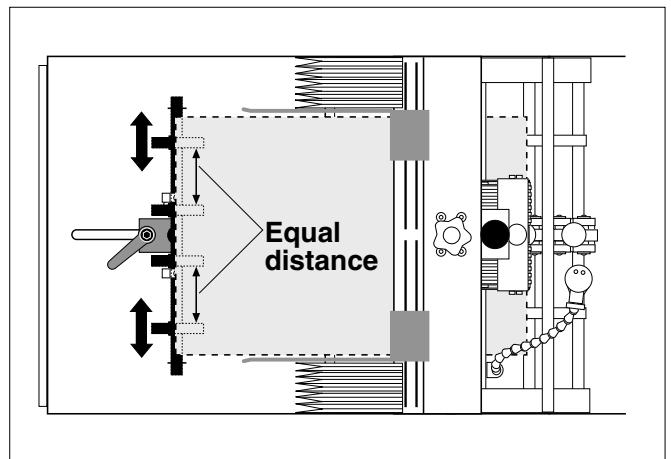

Figure 3-14. Evenly Adjusting Individual Rollers
6. Check that individual rollers are evenly spaced to provide enough support to lift the product off the table top and feed belts, without any bowing or twisting (Figure 3-14).